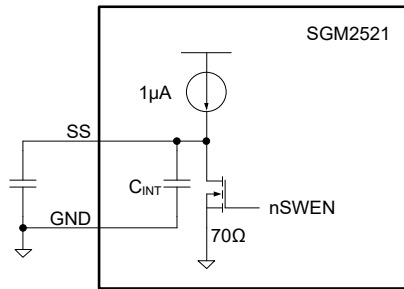

Figure 3. Output Ramp Up Time t_{dVdT} is Set by C_{dVdT}
SGM2521/2 are designed to control the in-rush current upon insertion of a card into a live backplane or other "hot" power source. This limits the voltage sag on the backplane's supply voltage and prevents unintended resets of the system power. A slew rate controlled start-up (SS) also helps to eliminate conductive and radiated interference. An external capacitor from the SS pin to GND defines the slew rate of the output voltage at power-on (as shown in Figure 3). The equation governing slew rate at start-up is shown in Equation 1: